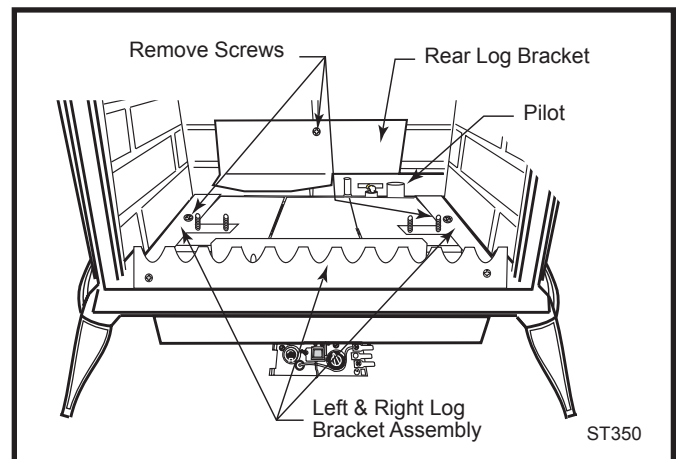

Fig. 57 Remove rear log bracket and left and right log bracket assembly.
5. Remove the rear log bracket by unfastening the screw. (Fig. 57)
6. Remove the right and left log bracket assembly by unfastening the two screws which hold the burner in place. (Fig. 57)
1. Locate pilot. (Fig. 57)